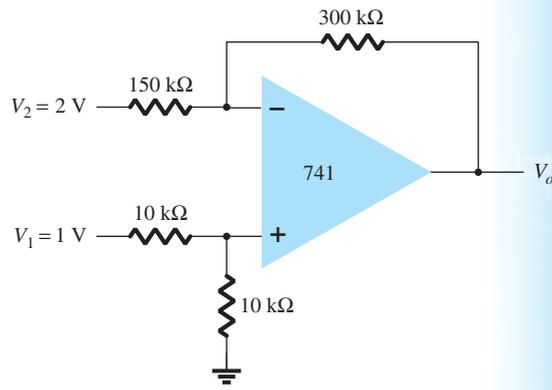

FIG. 11.51
7. Determine the output voltage for the circuit of Fig. 11.51.